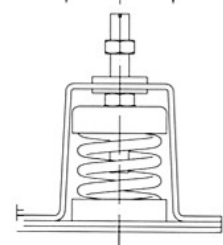

figure 3
- 3、 Lower the unit equipment to make sure that the hole and screw rod of base support are in the one line. As figure 3.